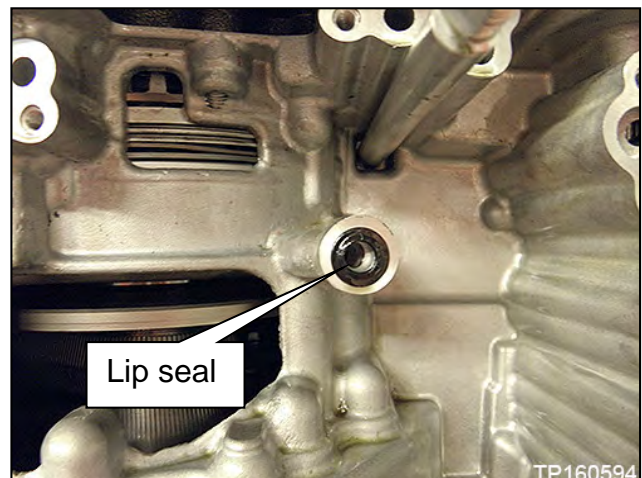

Figure 19
10. Install a new lip seal (Figure 19).